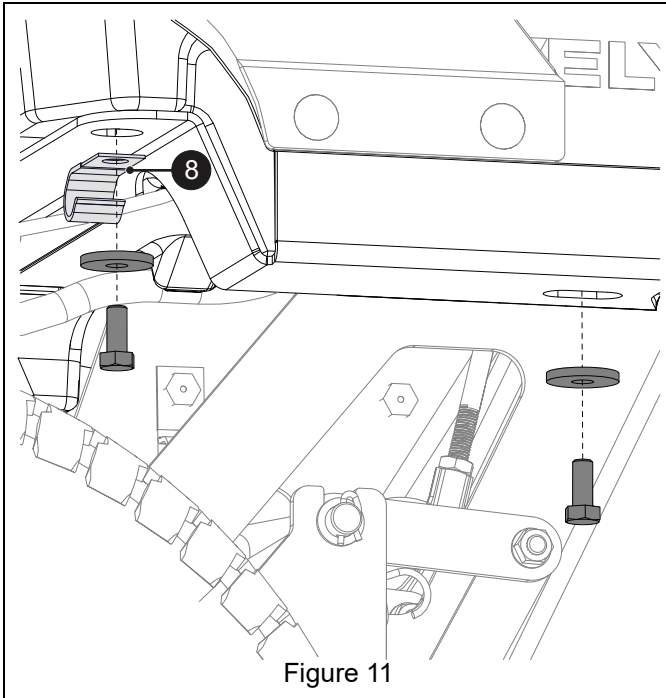

Figure 11
6. Position one J-clamp (item 8) at left-front fuel tank support bracket with hook facing in. Secure left-side tank with two 3/4" hex bolts and flat washers removed in Removal Step 6. See Figure 11.